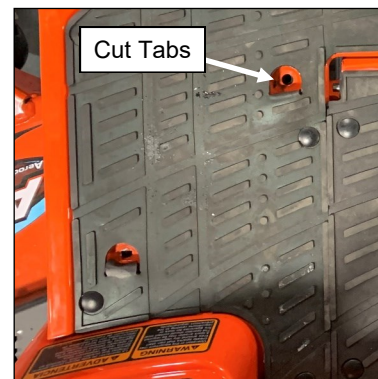

Fig. 4.2 (Cut Floormat)
- 4.2 See fig. 4.2. Cut the rubber tabs on the floormat at the bolt locations as shown so that the hole is clearly accessible.